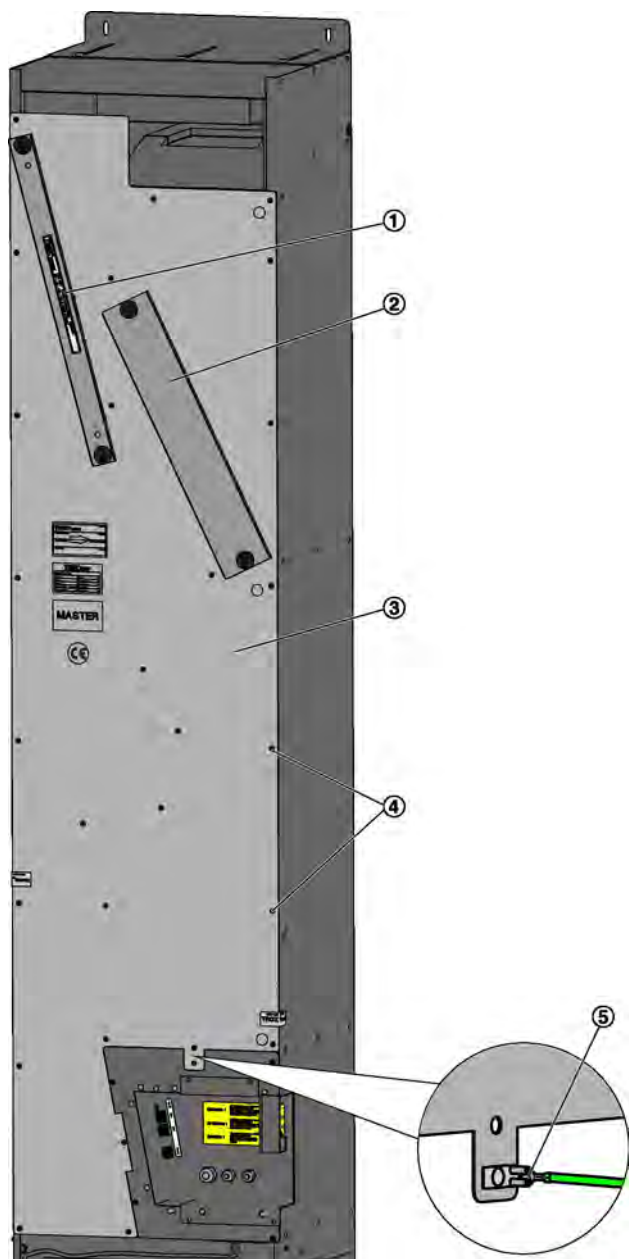

Fig. 29: Fixing the cover plate
Be sure to insert the protective conductor (Fig. 29/5) when you fix the cover plate.
1. ▶ Attach the protective earth conductor (Fig. 29/5) to the cover plate, then put the panel back onto the ventilation unit (Fig. 29/3). Fix the cover plate with the Phillips screws (Fig. 29/4).
2. ▶ Insert the extract air filter (Fig. 29/1) (Fig. 29/2) and remove the cover from the outdoor air filter chamber Fig. 29.